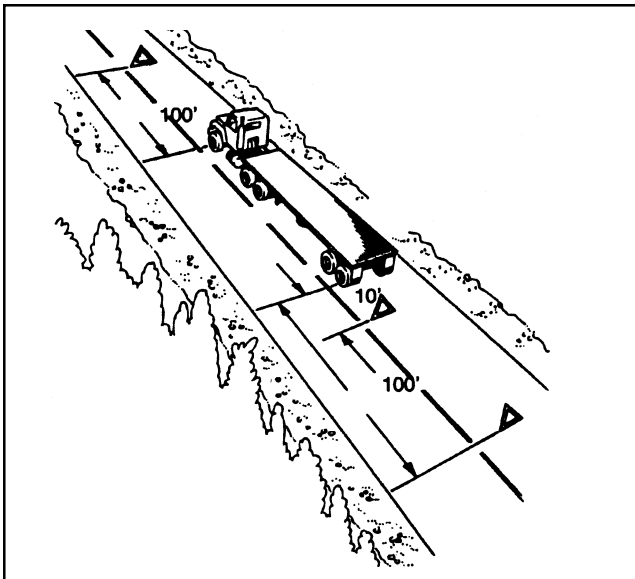

Figure 2-8
- ✓ If you stop on a two-lane road carrying traffic in both directions or on an undivided highway, place warning devices within ten feet of the front or rear corners to mark the location of the vehicle and 100 feet behind and ahead of the vehicle, on the shoulder or in the lane you stopped in. (See Figure 2-8.)